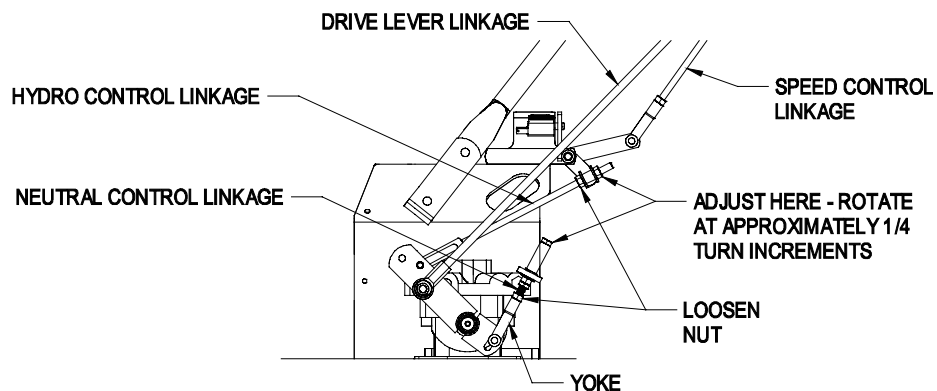

**FIGURE 9
- b) Install hairpin clips in the holes for the desired cutting height (See Figure 9).
2. Move speed control lever (located on console) to the full forward position and check orientation of tabs on the ends of the speed control crank (See Figure 9). These tabs should be pointing straight down at the 6 o'clock position or slightly forward. Adjust threaded yoke at the bottom of speed control linkage (See Figure 9) until tabs are positioned correctly.
3. Pull speed control lever back to neutral. Check that the neutral safety switch actuating tab has depressed the plunger of the switch so that there is about 5/16" between the tab and the switch (See Figure 9). If necessary, move the switch fore and aft.